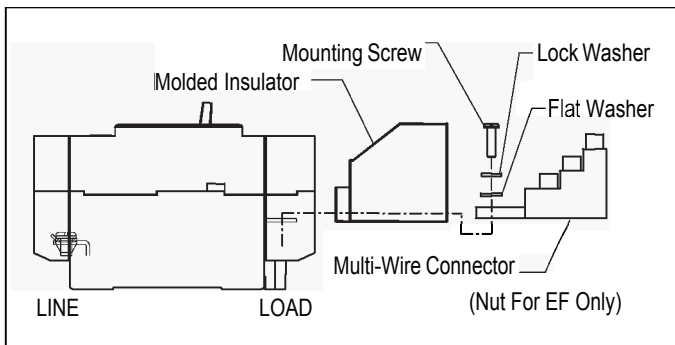

Fig. 2-1. Multi-Wire Terminal Connector Kit Installation Layout
a. Tapped Terminals (Refer to Fig. 2-1):
**b. E Collar Assemblies (Refer to Fig. 2-1):**
**c. G Frame Breaker with Installed Aluminum Single Wire Connectors (Refer to Fig. 2-1):**